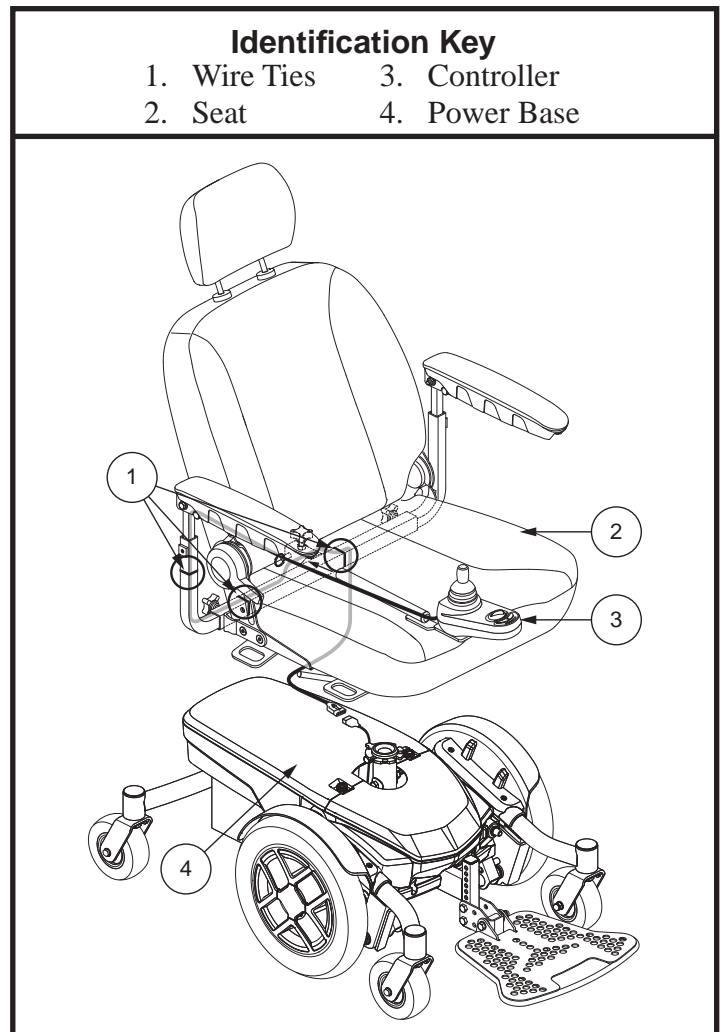

Figure 8. Seat and Controller Assembly
1. Slide the seat down onto the power base. See figure 8.
3. Lift the armrest straight up, then route the controller harness and secure with wire ties as shown in figure 8.